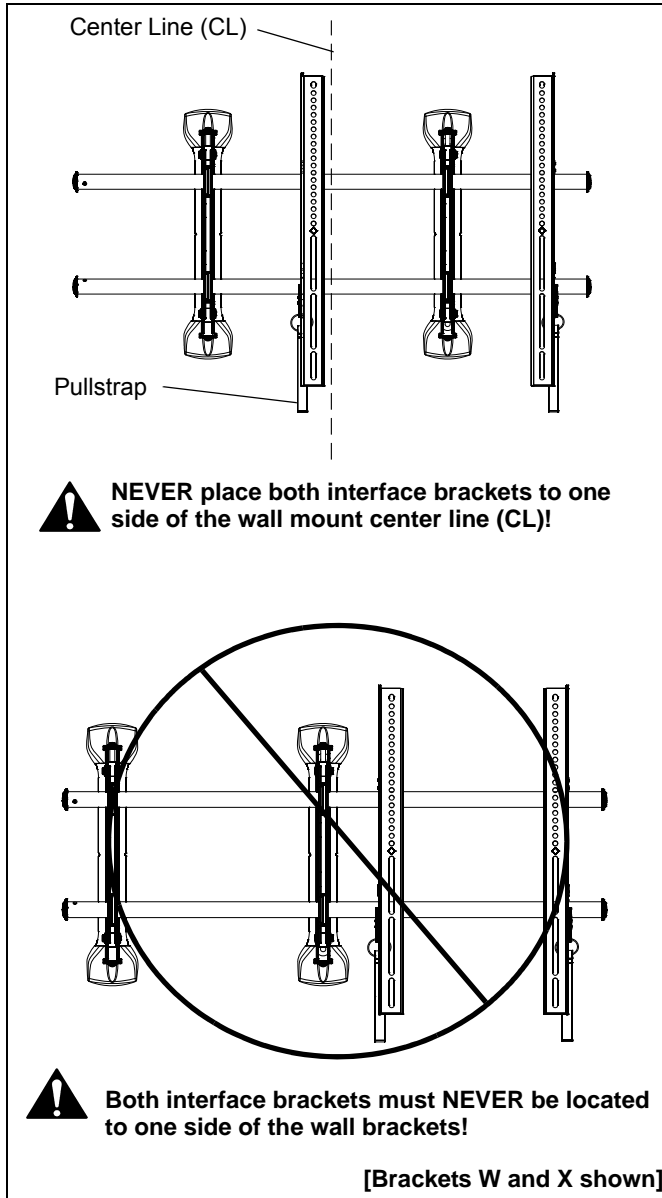

Figure 8
- Adjust Velcro® pull strap (if necessary) so it does not extend beyond bottom of screen. (See Figure 8)
NOTE: Do NOT allow both interface brackets (W and X or Y and Z) to be located on same side of wall bracket. (See Figure 8)
NOTE: NEVER place both interface brackets (W and X or Y and Z) to one side of the wall mount center line! (See Figure 8)